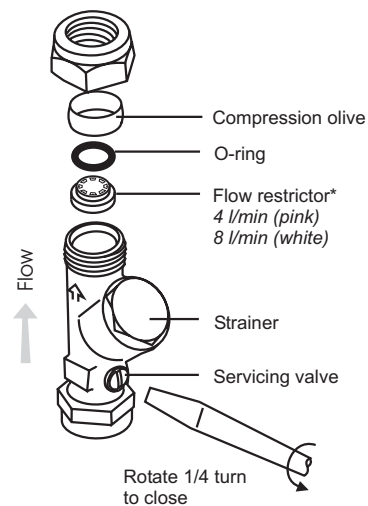

Figure 2 In-line filter and service valve showing restrictor
Approval only applies when the valves are installed without the flow restrictors illustrated in Figure 2
When installing on a modulating combination boiler it is sometimes possible for the interaction of a thermostatic valve with the combi to cause the boiler to cut out and cut in again with the result that the water will become alternatively cold and hot. To overcome this it is necessary to fit the flow restrictors* supplied upstream of the CTV. When installing on a combi boiler system these should be inserted in the downstream side of the servicing valve as shown on Fig 2. It is essential that these are positioned the right way round as shown in the sketch. Remove the compression nut and olive from the outlet side of the Isolating valve and place the restrictor in the outlet.
2. Turn the servicing valve to the off position, Figure 2.